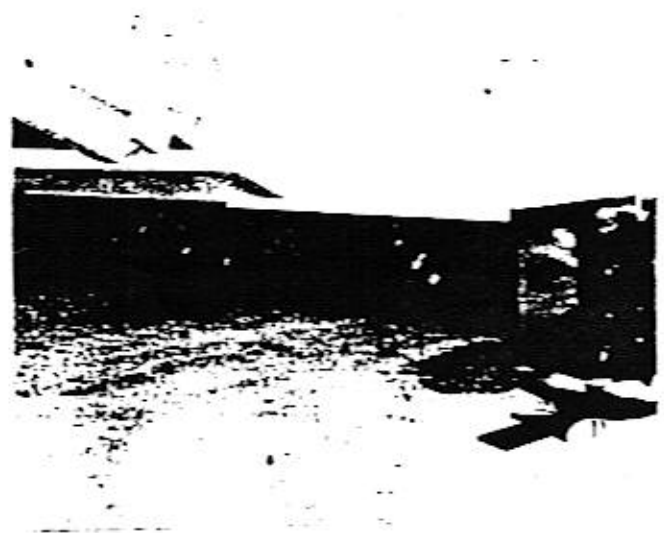

Figure 5-2
- b. Stand clear and have operator manually lower front of machine, by operating controls simultaneously, until each ski (or dolly) just touches pavement. See Figure 5-2.